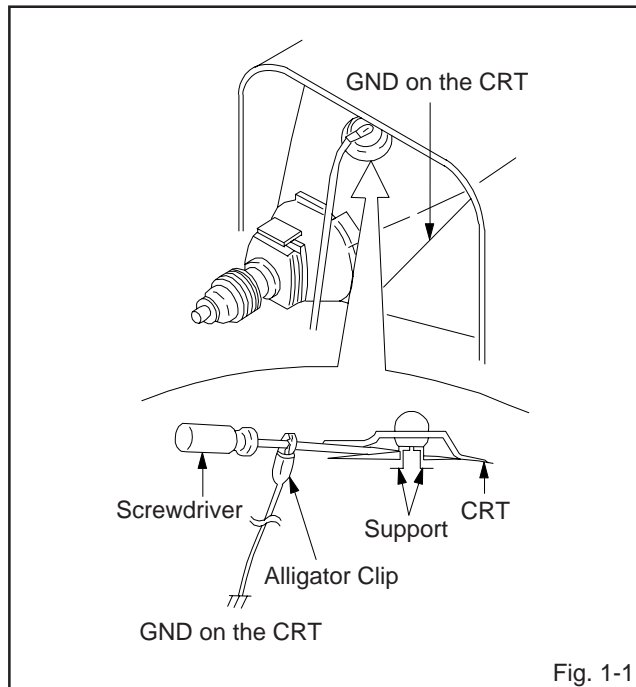

Fig. 1-1
1. Follow the steps as follows to discharge the Anode Cap. **(Refer to Fig. 1-1.)**